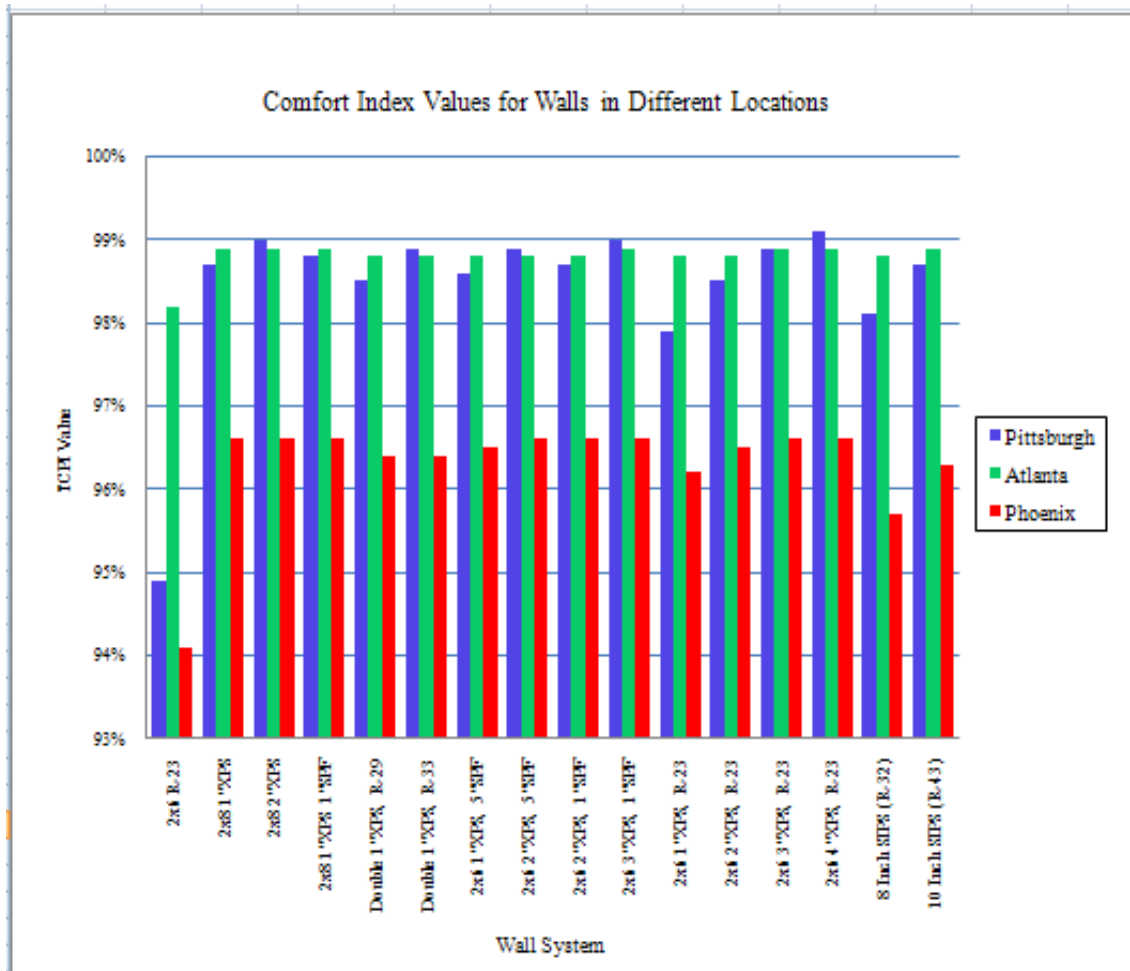

Figure 1: Whole house annual average TCPI values for each high performance wall system house design that IBACOS studied
- IBACOS conducted a parametric study of high performance wall system house designs. Figure 1 below displays the whole house annual average Thermal Comfort Performance Index (TCPI) values determined for each of the designs. In this study, only the wall system characteristics changed, and all other house system components remained unchanged; windows were modeled with values at $U=0.25$ and $SHGC=0.27$. Across all of the climates zones IBACOS studied, three wall types exhibited the best comfort conditions—a 2x8 staggered study wall with 2” of exterior insulating sheathing (the wall used to be for the Cold-Pittsburgh lab house), a 2x6 stud wall with 3” of exterior insulating sheathing and a layer of spray polyurethane foam insulation (with blown fiberglass insulation in the wall cavities), and a 2x6 stud wall with 4” of exterior insulating sheathing. In addition, an analysis of the modeling results determined that building high performance walls in a Cold climate location will increase comfort significantly more than in the other climate zones.